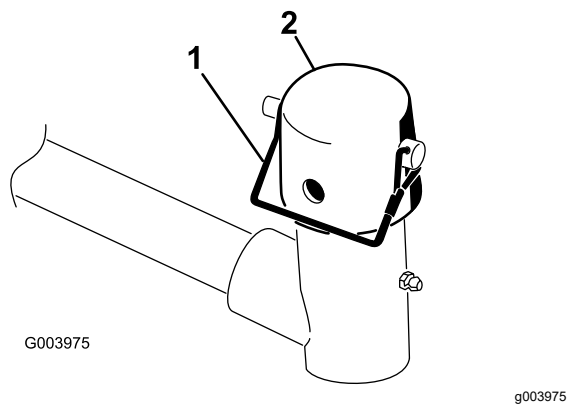

Figure 9
9. Remove the snapper pin and the cap from the lift-arm pivot yoke (Figure 9).
Note: Use the slot if a steering cutting unit is desired or use the hole if the cutting unit is to be locked in position (Figure 9).